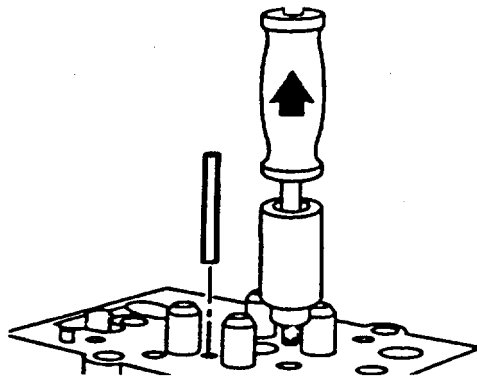

FIGURE 4-32. Crosshead Guide Removal.
- (1) Remove crosshead guide with a dowel pin extractor (P/N ST-1134) FIG. 4-32.